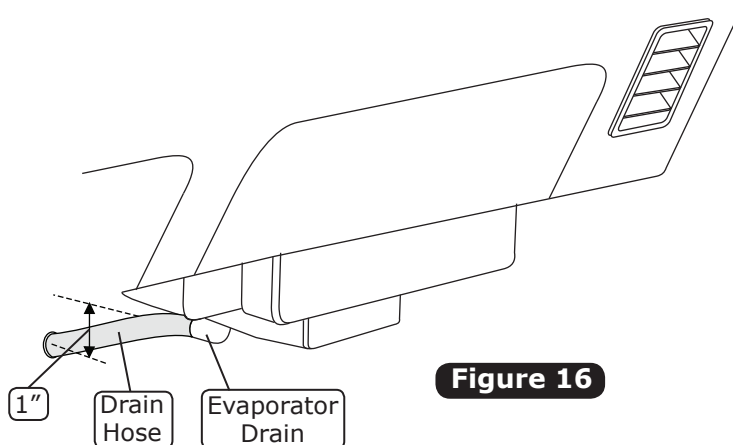

**Figure 15**
1. Attach (2) 25" lengths of 2" duct hose to the center louver as shown in Figure 15, below.
2. Install the center louver assembly into the dash, and secure it with the OEM mounting screws as shown in Figure 15, below.